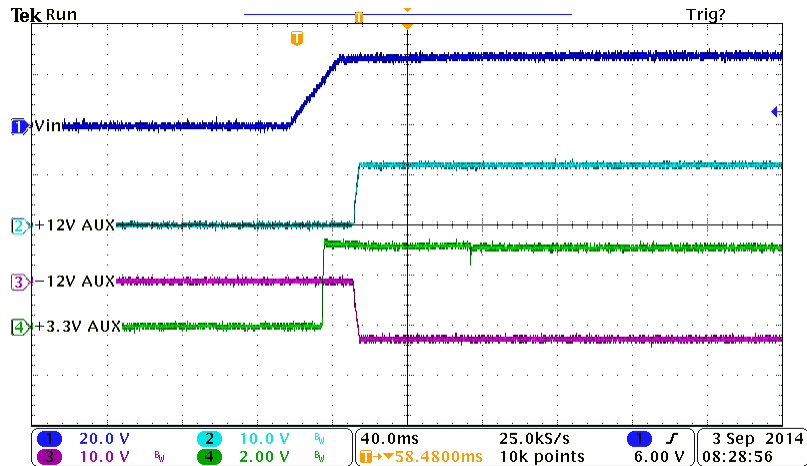

**Figure 1:** Connection Diagram for Parallel Operation of +12V Output
All three main outputs (+12V/25A, +5V/40A and +3.3V/15A) of Behlman's VPXtra™500M series power supplies can be paralleled for higher output power and redundancy with one or more VPXtra™500M power supplies. See Figure 1 below for connections required.
- Figure 1 Shows typical connection diagram for parallel operation of +12V output similar connections shall be made to parallel both the +5V and +3.3V output